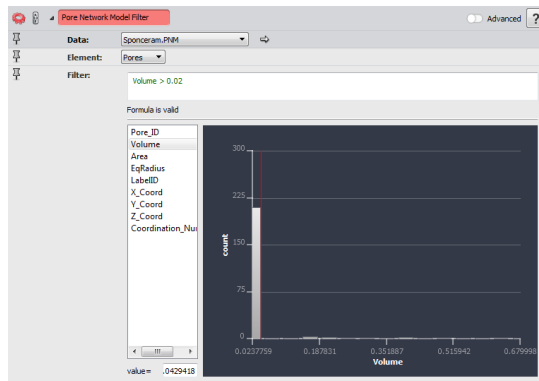

Figure 24.22: Parameters of the Pore Network Model Filter Module
7. Filter the data to keep only pores with volume greater than 0.02. Create a *Pore Network Model Filter* module on the generated PNM and then add *Volume > 0.02* in the Filter port. You can visualize the filtered network by changing the Data port of the Pore Network Model View and setting it to the new network (see Figures 24.22 and 24.23).